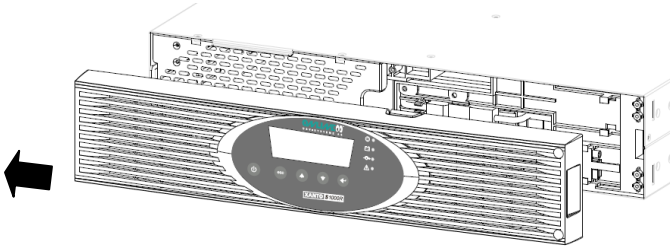

Figure 5: Removing the front cover from the UPS system
1. Remove the front cover of the UPS system (see Figure 5).